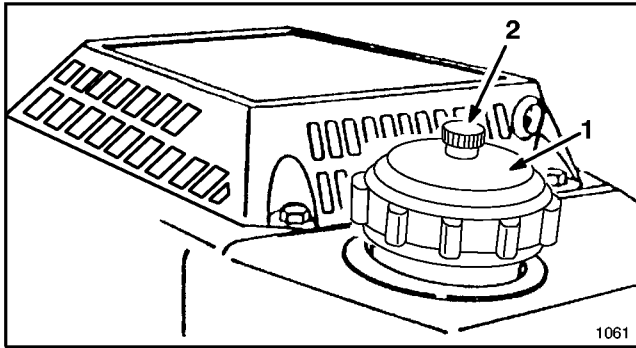

Figure 7
1. Clean around fuel tank cap and remove cap from tank (Fig. 7). Using unleaded gasoline, fill fuel tank to within 6 to 13 mm (1/4 to 1/2 inch) from top of tank, not into filler neck. Do not fill tank full.
2. Open vent screw on top of fuel tank cap (Fig. 7) by rotating screw counterclockwise.